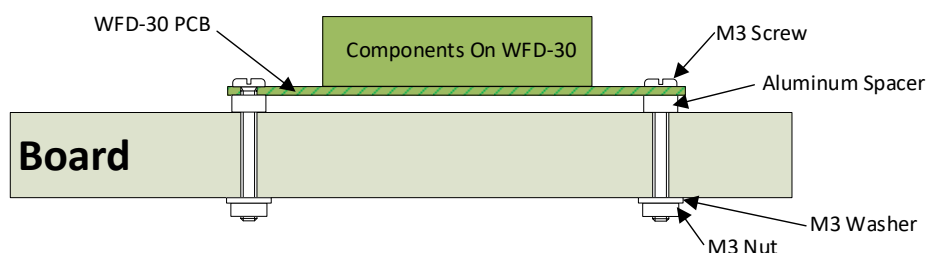

Figure 49 Mounting the WFD-30 on a board
- (1) Use the mounting kit to attach the module to your baseboard or fascia, as in Figure 49, either on top or underneath in such a way as to avoid anything being placed on it or against it.
- (2) Mount the module inside a suitable plastic box with holes cut to accommodate the RJ12 connectors.